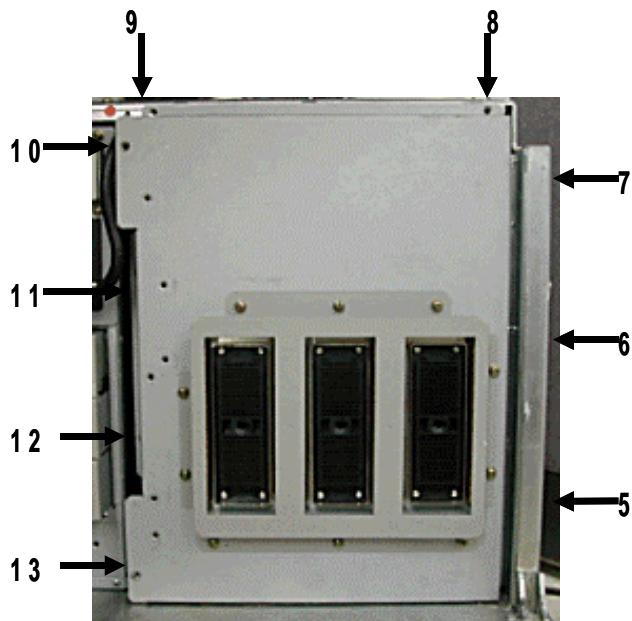

Figure 8-80 Removing the RLY board Cover
- 4.) Unscrew nine (7) screws (5-13) to open the RLY Board Cover. Refer to Figure 8-80.